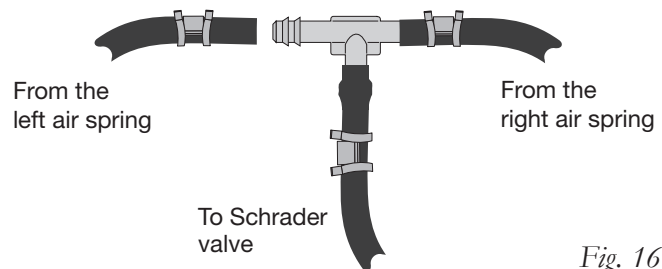

Fig. 16
6. Use this procedure (Fig. 16) for all air line connections:
- Slide the air line clamp (M) onto the air line (D).